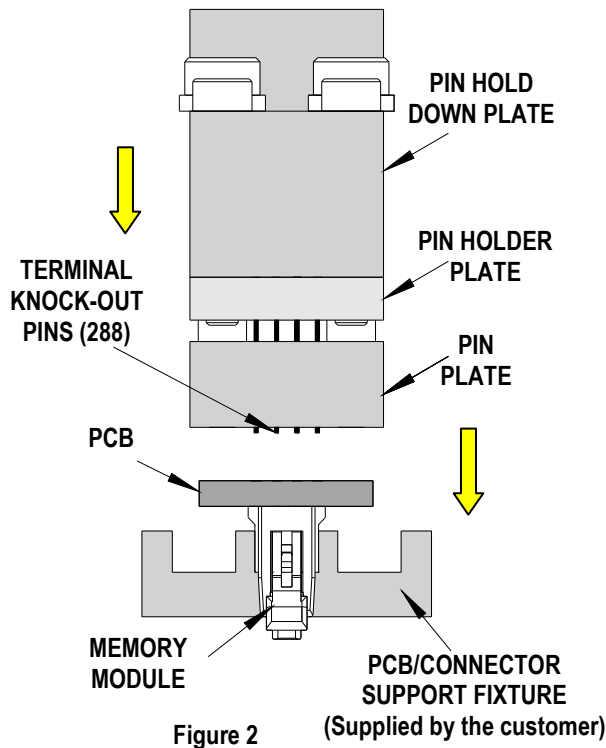

Figure 2
2. With the Memory Module supported with the customer supplied fixture, the Extraction Tool can now be placed on the back side of the printed circuit board. See Figure 2.